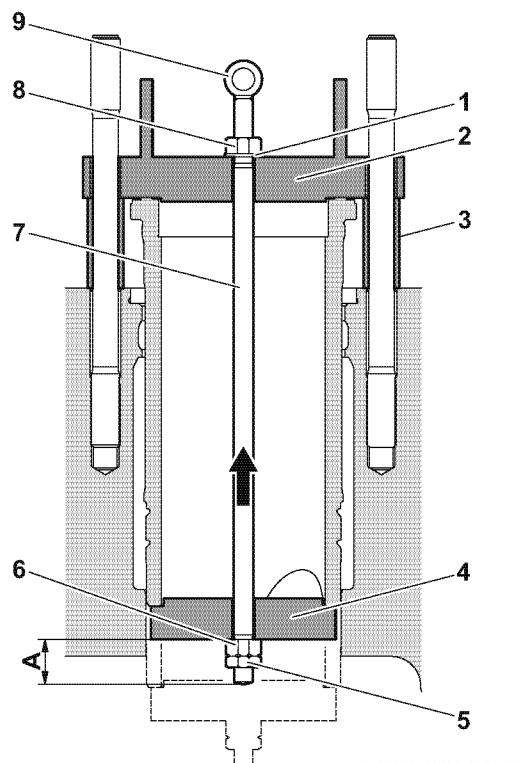

Fig.2 Removing the cylinder liner
1. Install the special tools in this sequence. Refer to Fig. 2.